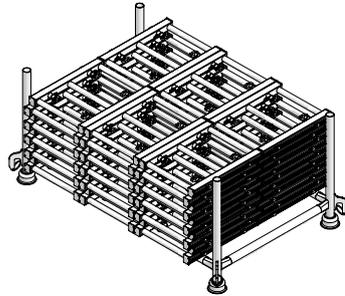

Fig. 35.1 Frames 55 MEP in piling rack
- 60 frames 55 MEP: 412 kg (Fig. 35.1)